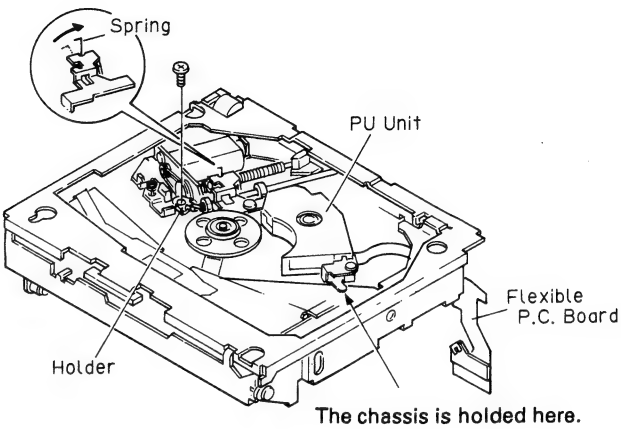

Fig. 9
- 7. Hook the spring as shown in the figure. (Fig. 9)
- 8. Remove the holder and screw. (Fig. 9)
- 9. Remove the flexible P.C. board. (Fig. 9)
- 10. Remove the PU unit. (Fig. 9)